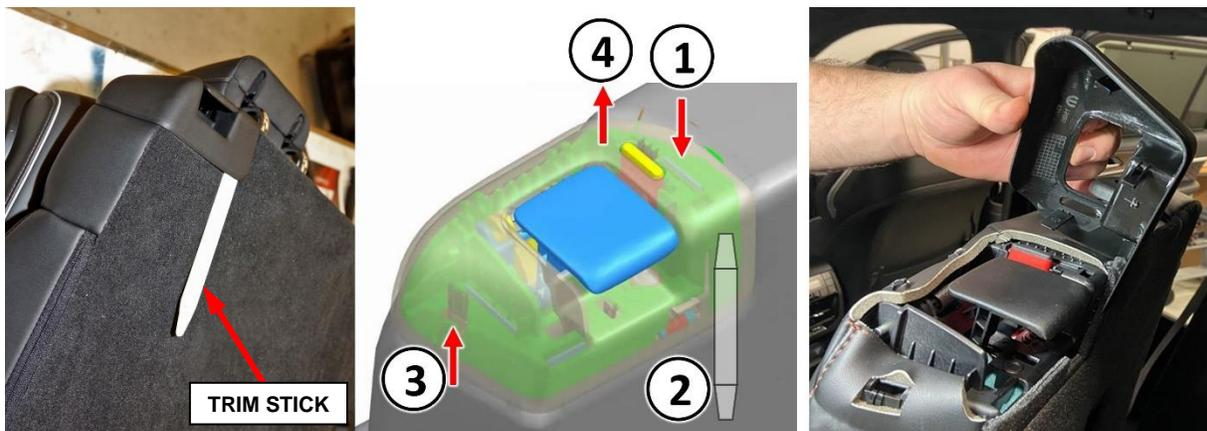

Figure 76 – EZ-Entry Handle Bezel
16. Remove the EZ-Entry Bezel (Figure 76).
- c. While pushing down on rear inboard corner (1), slide trim stick (2) under rear of bezel from the inboard side. Then gently pry trim stick out 5-10 degrees, until the bezel pops up slightly. Keep light pressure up on the trim stick.
- d. Jostle / Lift Up at point (3) to disengage the outboard snap attachment, rotate trim stick slightly back and forth if needed.
- e. Pull on front inboard of bezel at (4) and at the same time push up on the trim stick.
60. Install the EZ-Entry bezel (Figure 76).